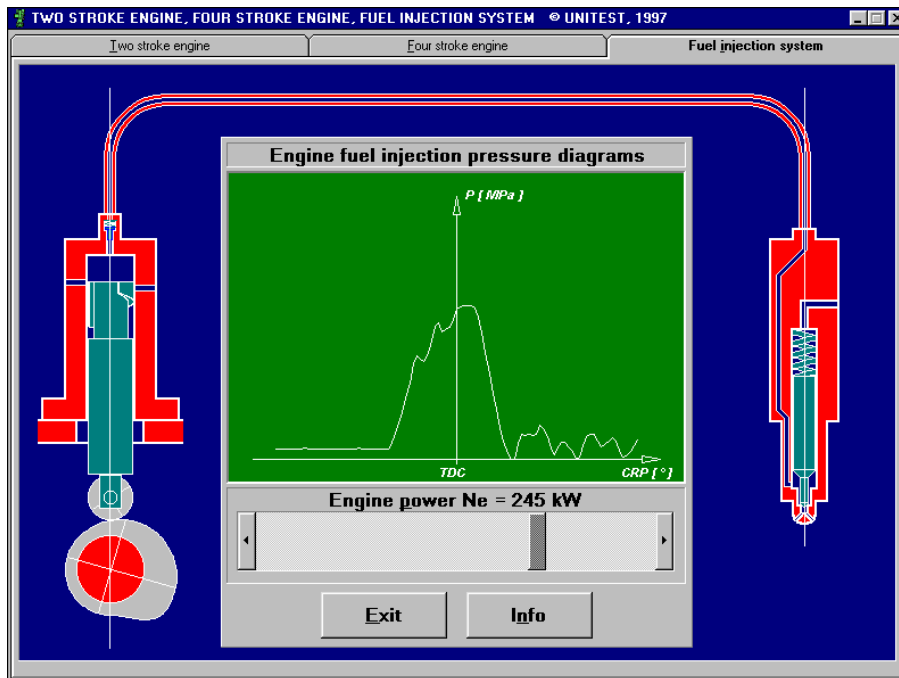

Fig. 3 Fuel injection system
3. Fuel injection system / fig. 3/